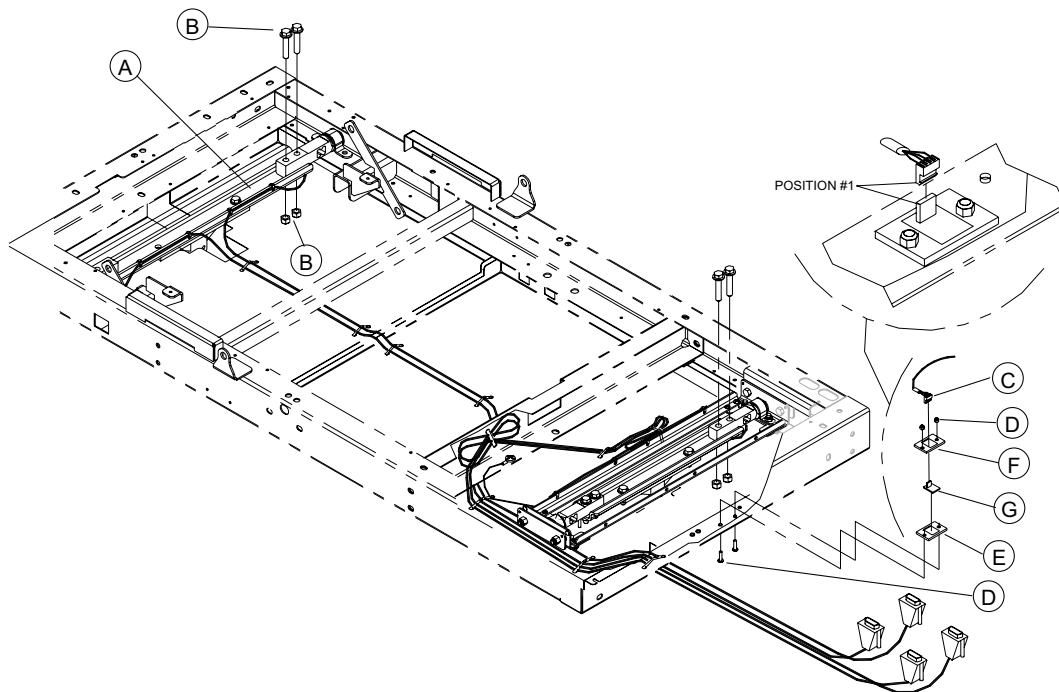

Figure 17 – Load cell
Note - For load cell cable connections to the control board, see Figure 17.
6. Using a 9/16" combination wrench and a 9/16" socket, remove the two bolts and two locknuts (B) that secure the load cell to the frame support (Figure 17). Save the bolts and locknuts.